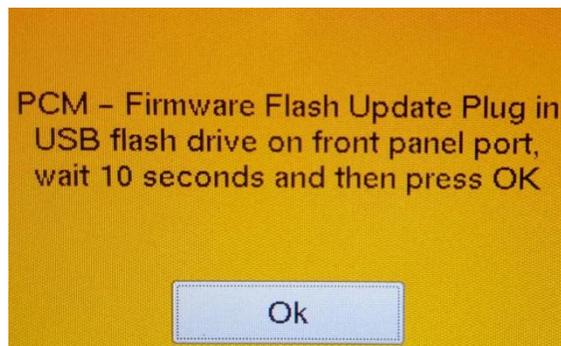

Figure 1.13 PCM Update Message
- A “pop up” message will prompt you to insert the USB. Plug the USB flash drive in the USB setup on the DPS1000/1811NG front panel. Wait 10 seconds before pressing “OK” (Figure 1.13).